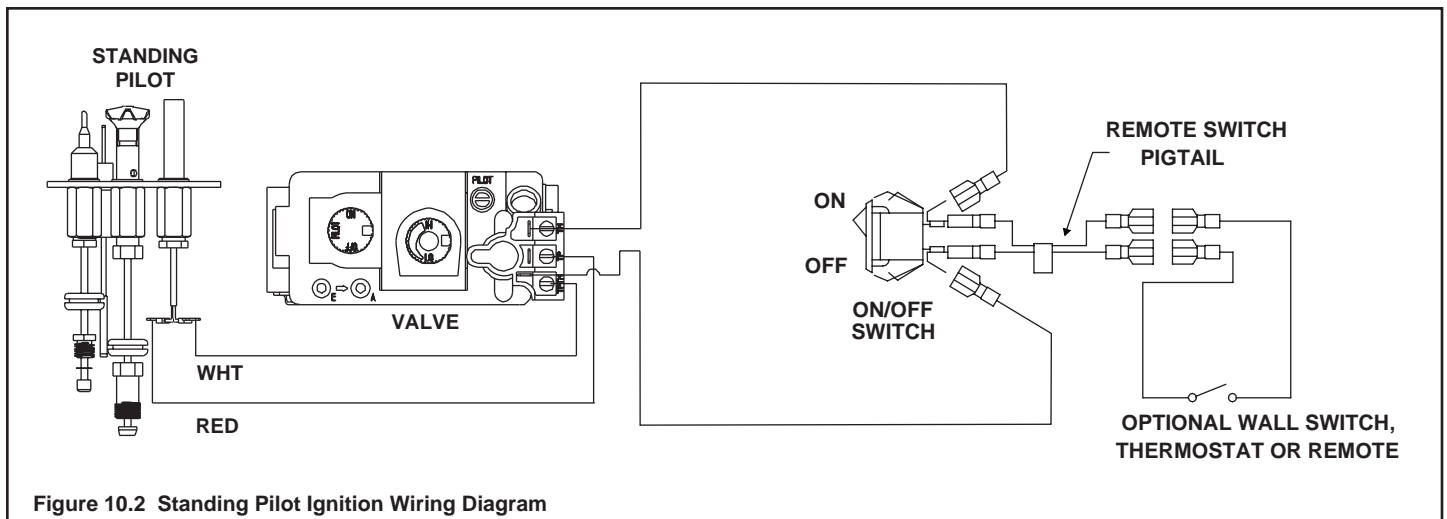

Figure 10.2 Standing Pilot Ignition Wiring Diagram
- If desired an additional wall switch or thermostat may be added to system as shown in Figure 10.2).